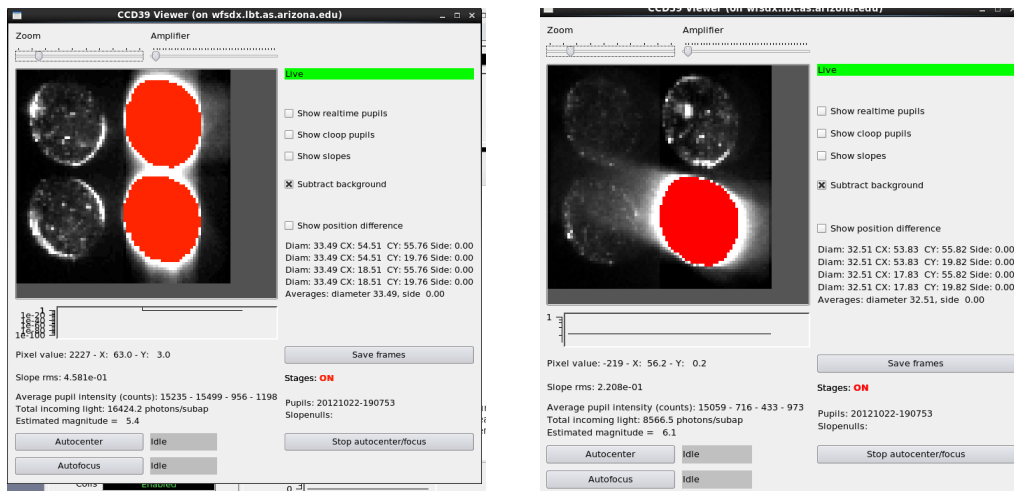

Figure 2 Example screenshots of CCD39 GUI at the end of Procedure 4
3. Check illumination	You should see pupil images on the CCD39 GUI. See Figure 2